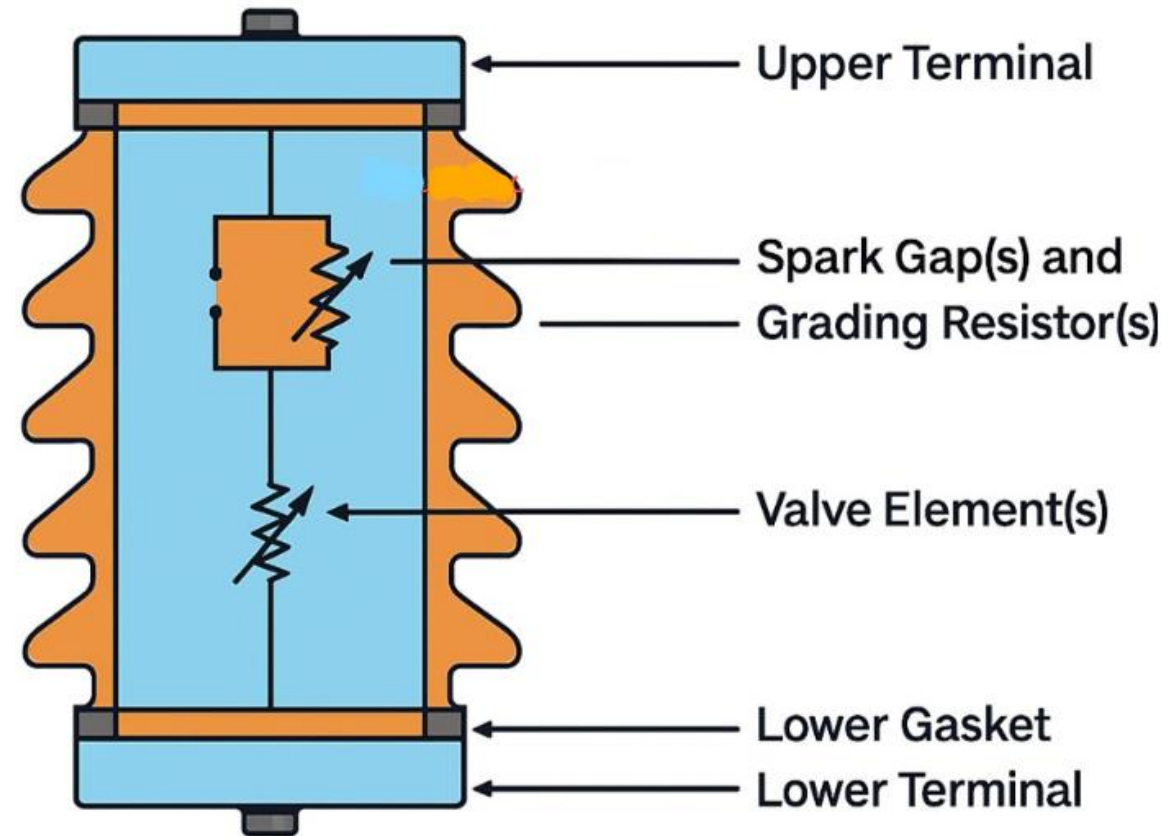

Figure 6: Lightning Arresters Substation Protection [4].
- The frequency domain analysis of a transmission line modeled with a series R-L-C circuit as in Figure 6: